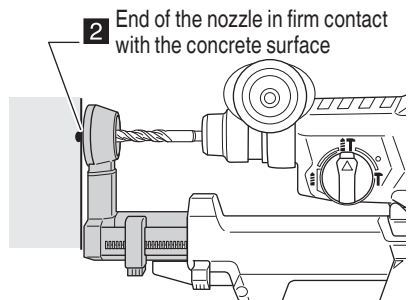

Fig. 17
- (2) Release the nozzle and allow it to make firm contact with the surface of the concrete. (Fig. 17)